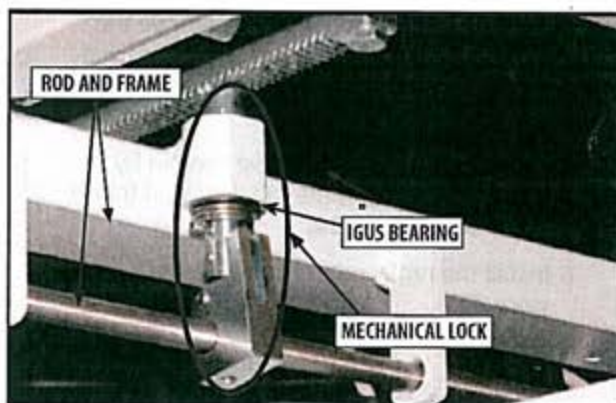

FIGURE 5.30
4. Slide the end of the rod closest to the Mechanical Lock through the frame. Drop the rod down, releasing the pin from the Igus Bearing. **Refer to Figure 5.30.**